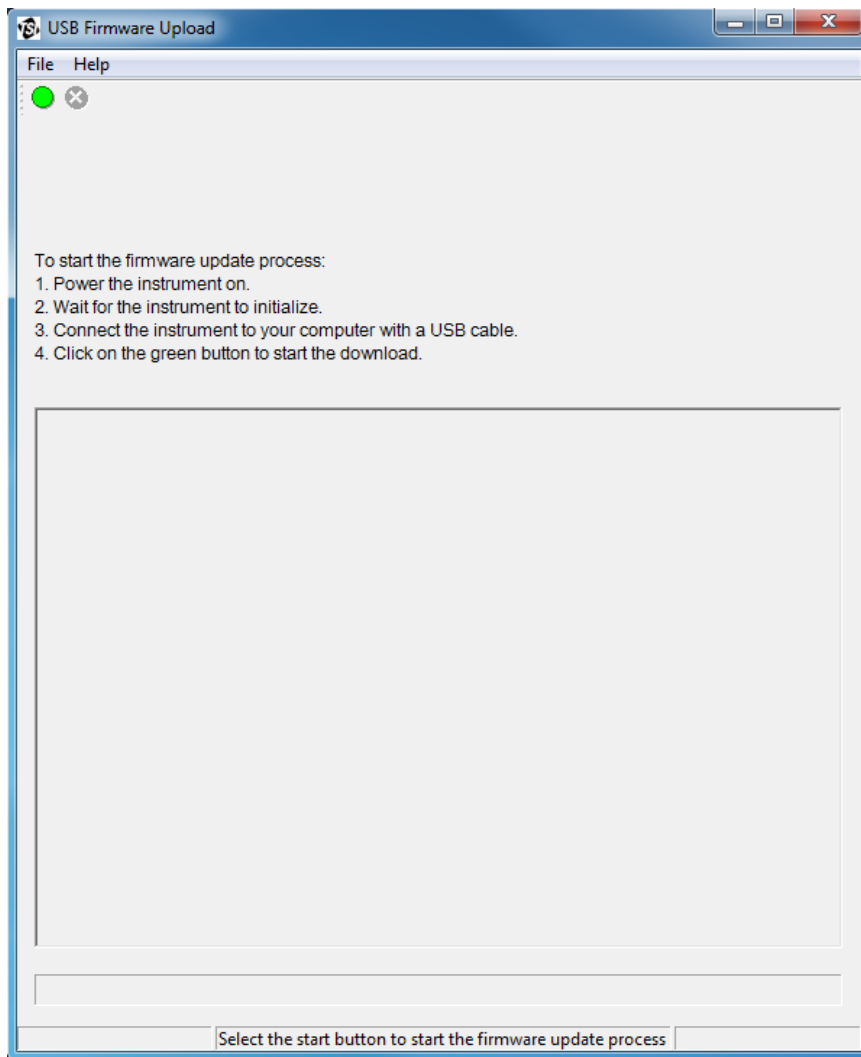

Figure 9
3. To load firmware to the instrument, double-click the new **CPC 377x Firmware Upload Utility** icon on your computer's desktop to run the USB firmware update application. The following screen appears (Figure 9).